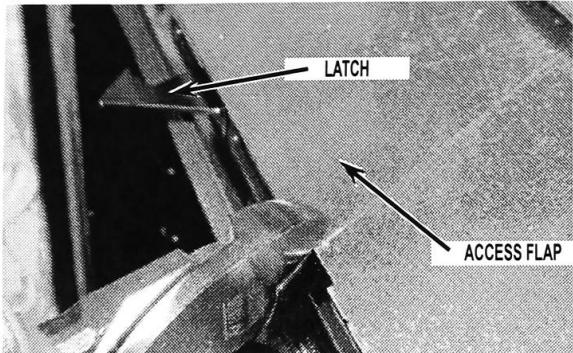

Figure 1
3. Using tin snips, cut the right and left front edge of the access flap in the Air Outlet Duct. (See *Figure 1*)